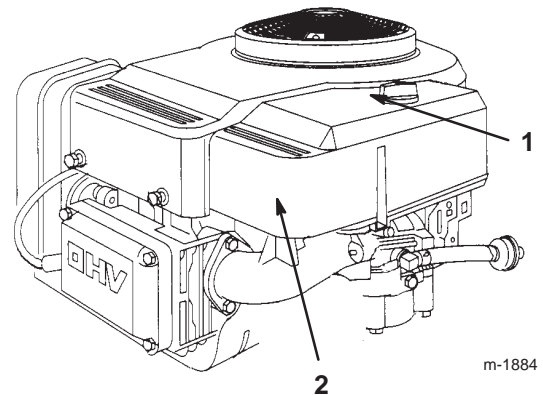

Figure 20
8. Unscrew the knob and remove the air cleaner cover (Fig. 20).
- Install the air cleaner cover and knob (Fig. 20) and tighten the knob snugly.